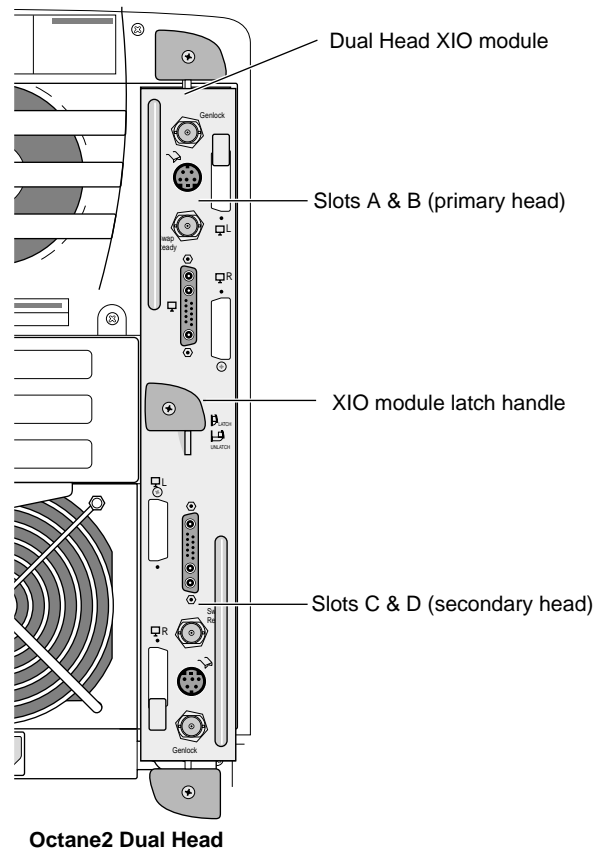
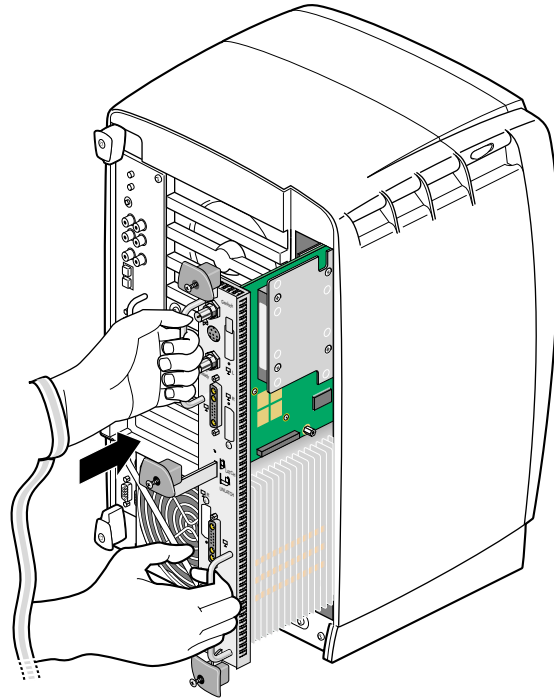

Figure 1-11 Placing the Primary Head Graphics Boards Toward the Top of the Workstation
Figure 1-12 Inserting the Dual Head XIO Module
Note: Be sure to install the Dual Head XIO module in the orientation shown in Figure 1-11. This orientation can be confirmed by ensuring that the silk-screened labels on the I/O panel are right-side up, and that the center plastic knob is in the orientation shown in Figure 1-11.
2. Make sure the center plastic knob protrudes from the I/O panel, as shown in Figure 1-12.
3. Slide the Dual Head XIO module into the guides on the top and bottom of the workstation, as shown in Figure 1-12. Be sure the module is oriented correctly, as shown in Figure 1-11. If the module does not slide smoothly into the chassis, rock it very slightly up and down.